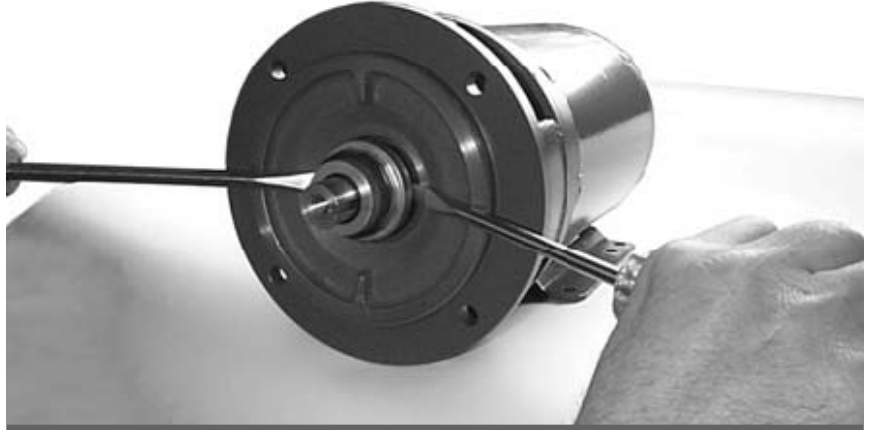

**Figure 1** *Back off the impeller retaining assembly.*
6. Insert a screwdriver in one of the impeller waterway passages and back off the impeller retaining assembly with a socket wrench, as shown in Figure 1.